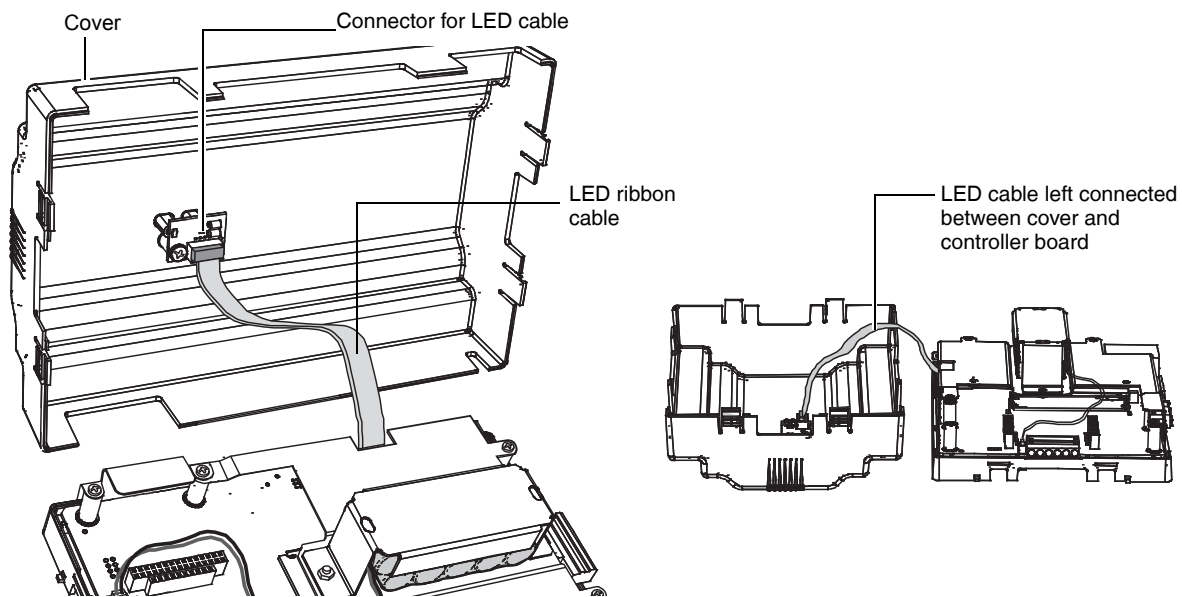

Fig. 4. Removing WEB/CP-700 cover.
An LED ribbon cable connects the cover to the main board. Be careful when lifting the cover off. If the controller is on a flat work surface, you can leave the cable connected, with the cover next to the unit. See Fig. 4.
- To remove the cover, press in the tabs on both ends of the unit, and carefully lift it off (see previous Caution). If necessary, unplug the LED cable from the cover, at the connector on the back of the cover (see Fig. 4).